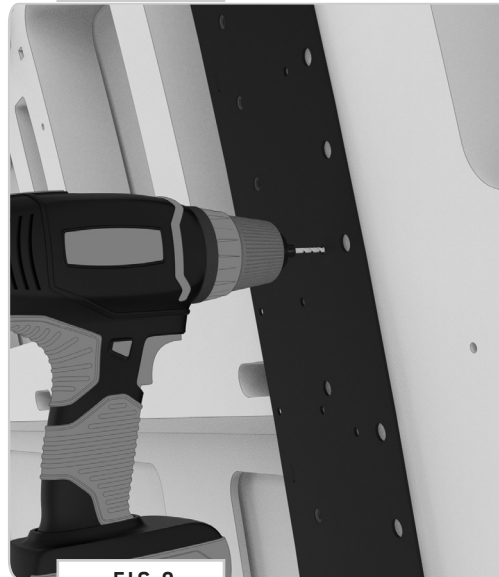

FIG 8
4.2 Securing the Driver Side Rear Bracket: Double-check your measurements against your marks and proceed to secure the **Driver Side Rear Bracket** by drilling through all of the **Rivet Holes** (**FIG 8**) and painting with a rust preventative paint.